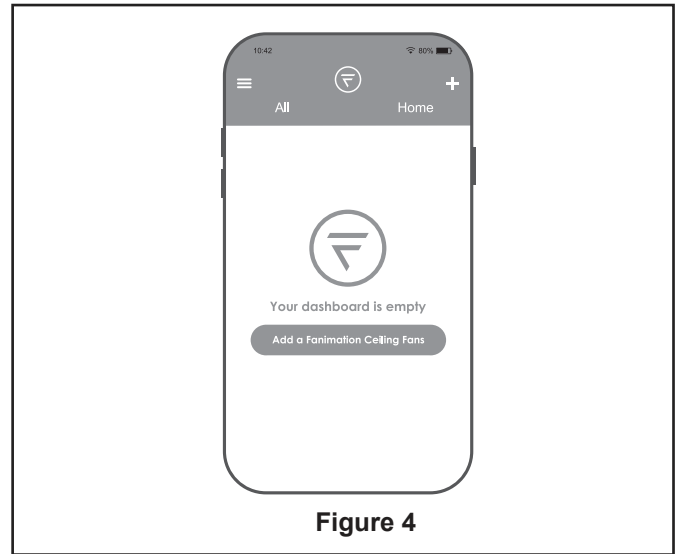

Figure 4
- 4. After you have created Fanimation fanSync account, you can add your fans in the app. (Figure 4)